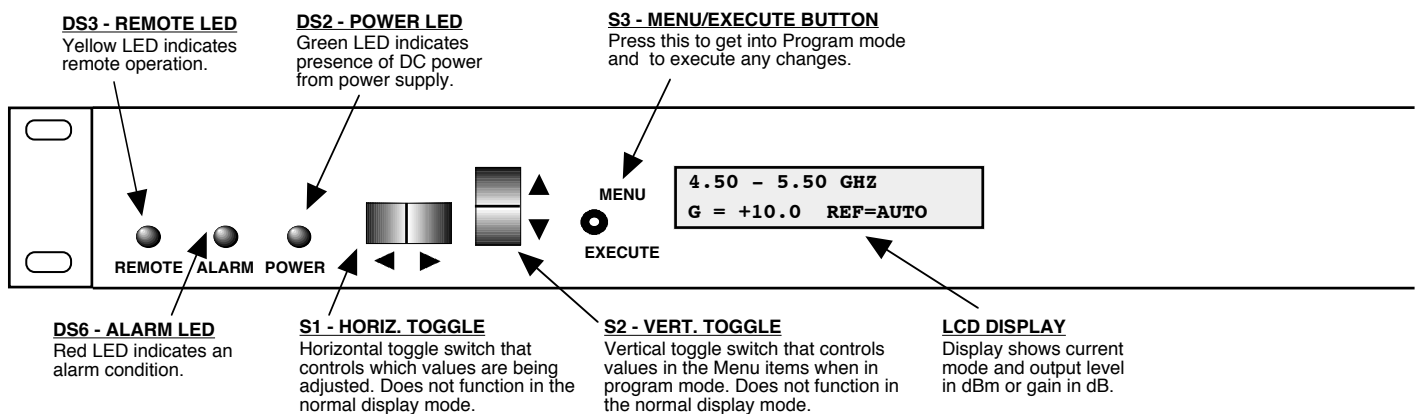

FIGURE 2.2 3116-4555#-2000 Front Panel Controls and Indicators
Figure 2.2 shows the front panel controls and indicators.
6. Be sure DS2 (green, DC Power) is on and DS6 (red, Alarm) is off (Figure 2.2).
Alarm indications appear on the LEDs (see Figure 2.2).